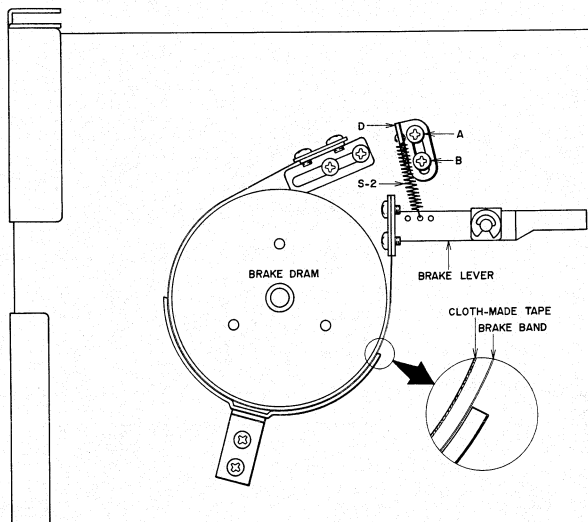

Fig. 10
**NOTE:** In making Brake Tension Adjustment, when the machine is set to other than stop mode, confirm that the brake band definitely does not touch the cloth tape on the brake drum. (See Fig. 10)